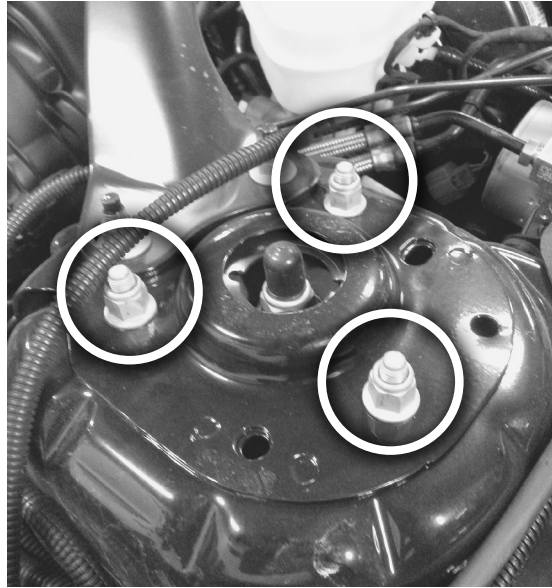

Fig. 11
5. Within the engine compartment, unthread the three upper mount nuts and remove the strut from the vehicle. (Fig. 11)